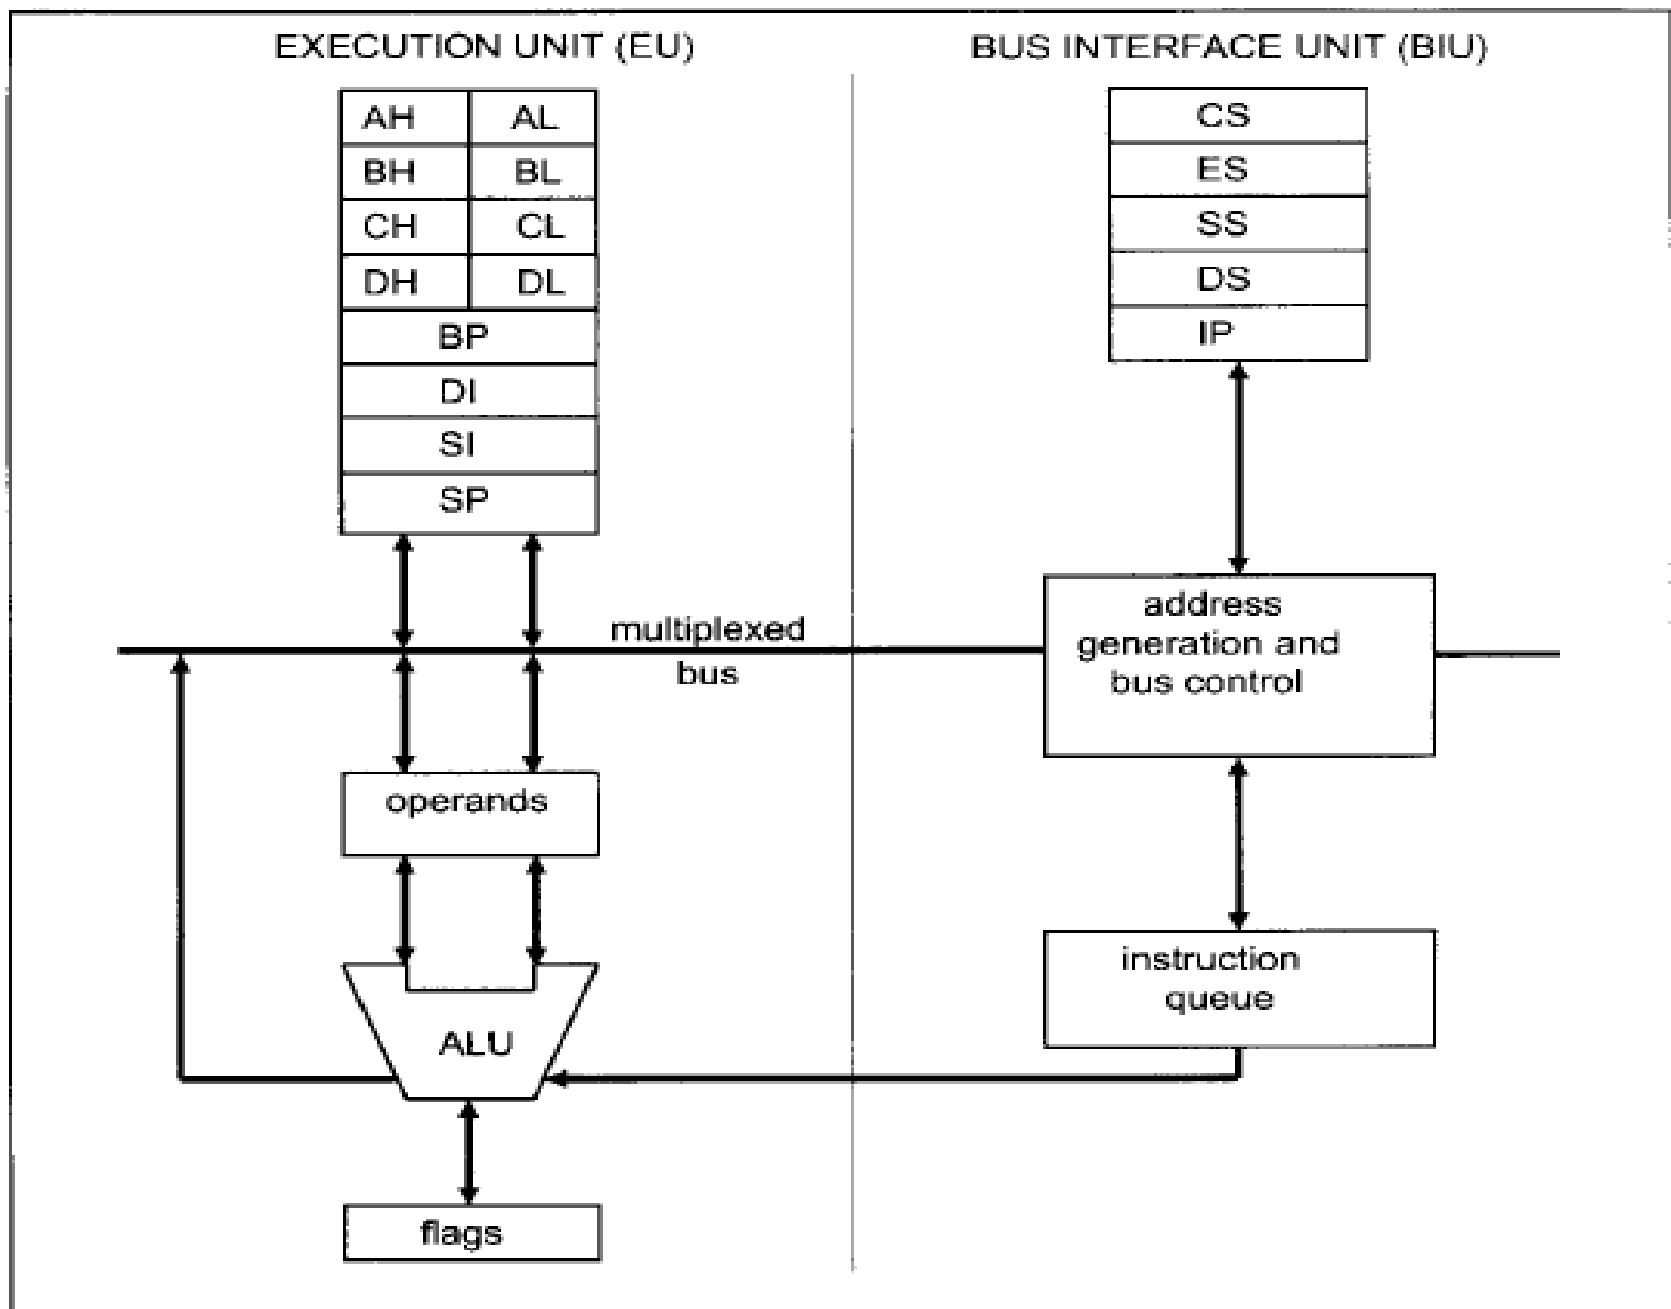

Figure 1-1. Internal Block Diagram of the 8088/86 CPU
In this section we explore concepts important to the internal operation of the 8088/86, such as pipelining and registers. See the block diagram in Figure 1-1.
Intel implemented the concept of pipelining in the 8088/86 by splitting the internal structure of the microprocessor into two sections: the *execution unit* (EU) and the *bus interface unit* (BIU). These two sections work simultaneously. The BIU accesses memory and peripherals while the EU executes instructions previously fetched. This works only if the BIU keeps ahead of the EU; thus the BIU of the 8088/86 has a buffer, or queue (see Figure 1-1). The buffer is 4 bytes long in the 8088 and 6 bytes in the 8086. If any instruction takes too long to execute, the queue is filled to its maximum capacity and the buses will sit idle.